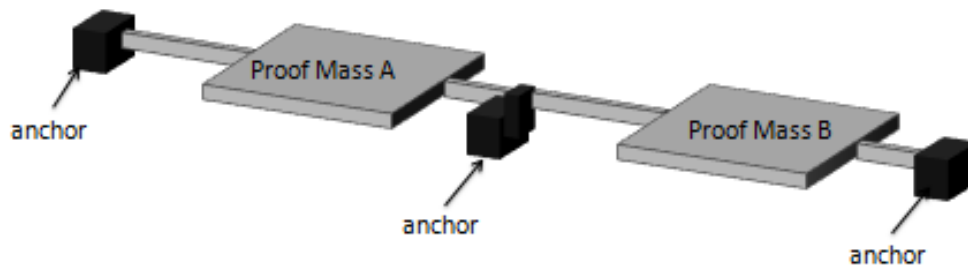

Figure 1
3. Suppose a step-function voltage V_A were suddenly applied across the outer anchors of a $2\mu\text{m}$ thick fixed-fixed polysilicon structure comprised of beams and proof mass structures, as shown in Figures 1 and 2, which also provide lateral dimensions. For polysilicon, assume the following material properties: Young's modulus $E = 150\text{ GPa}$, density $\rho = 2,300\text{ kg/m}^3$, Poisson ratio $\nu = 0.226$, sheet resistance = $10\ \Omega/\square$, specific heat = $0.77\text{ J/(g}\cdot\text{K)}$, and thermal conductivity = $30\text{ W/(m}\cdot\text{K)}$. Also assume the initial temperature of the structure is $20\text{ }^\circ\text{C}$.